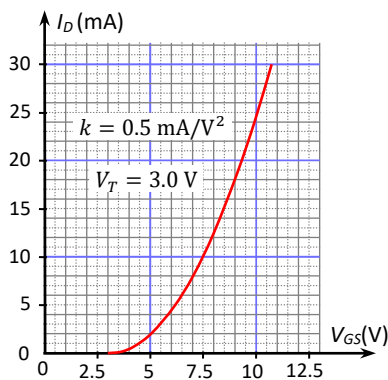

Fig.7-55: Transfer characteristics for Exer. No.7-8
8. An enhancement MOSFET has $V_T = 3$ V, and $k = 0.5$ mA/V². The transfer characteristic curve of this transistor is given in Fig.7-55. Calculate the value of g_m from the graph and using Equ.(7-28), and Equ.(7-28) for $V_{GS} = 10$ V.